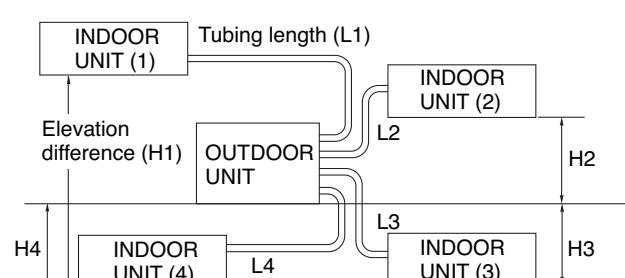

Fig. 3a
- install the unit within the maximum elevation difference (H_1, H_2, H_3, H_4) above or below the outdoor unit and within a total tubing length ($L_1+L_2, L_1+L_2+L_3, L_1+L_2+L_3+L_4$) from the outdoor unit as detailed in Table 3 and Fig. 3a.